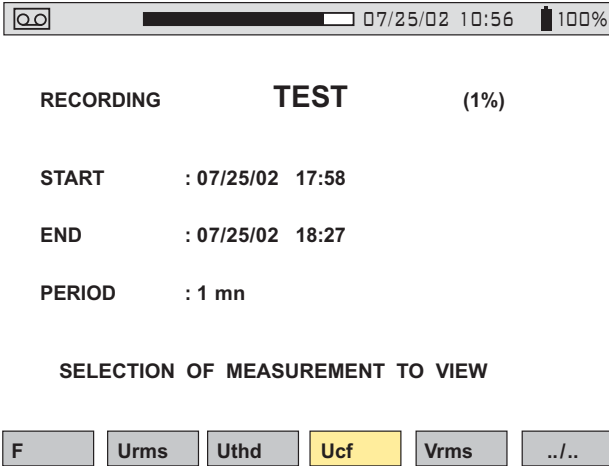
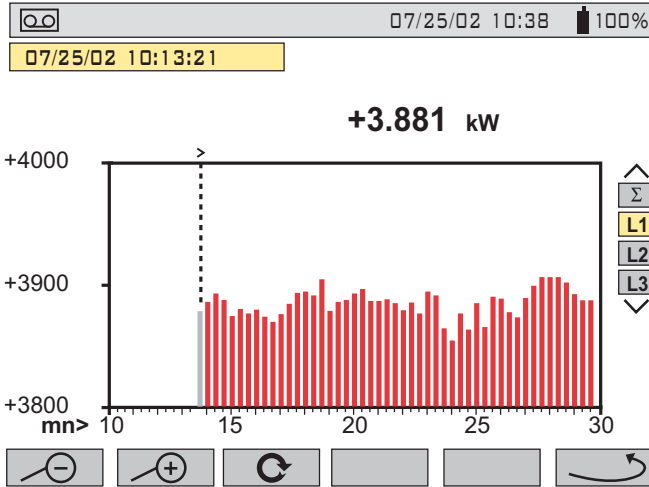

Figure 5-21
Figure 5-24
- Select the recording to be displayed using the  buttons. Then, open the recording by pressing the  button. A screen similar to figure 5-21 will appear.
- ① MIN, AVG and MAX values over the display period
- ② MAX value
- ③ AVG value
- ④ MIN value
- ⑤ Returns to the Measurement Selection Screen (see Fig. 5-21)
After returning to the Measurement Selection Screen (see Fig. 5-21) use the “./.” button to view more recorded parameters, if necessary. Pressing the “W” button, will bring up a screen similar to Fig. 5-24 below.